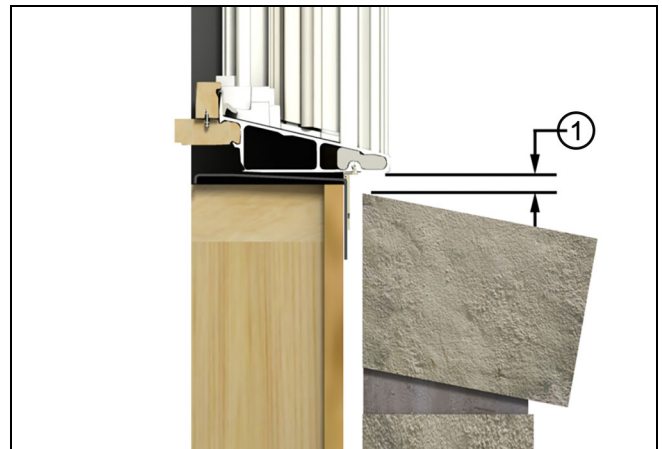

Figure 5 Avoid brick bind, maintain 1/2" gap
**NOTE:** On standard wood frame construction with brick veneer, make sure there is at least 1/2" (13) between bottom of window sill (or eventual placement of the window) and the top row of brick to avoid "brick bind". See Figure 5.